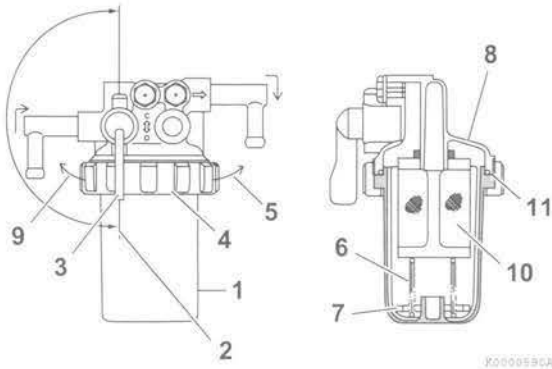

Figure 4
1. Position an approved container under the water separator (1, **Figure 4**) to collect the contaminants.
2. Close (2, **Figure 4**) the fuel valve (3, **Figure 4**).
3. Turn the retaining ring (4, **Figure 4**) to the left (9, **Figure 4**).
4. Carefully remove the cup (1, **Figure 4**). Remove the retaining spring (6, **Figure 4**) and float (7, **Figure 4**) from the cup. Pour the fuel into an approved container and dispose of waste properly. Hold the bottom of the cup with a shop towel to prevent the fuel from dripping. Wipe up any spills immediately.
6. Inspect the condition of the mesh filter (10, **Figure 4**). Clean the mesh filter if necessary.
7. Inspect the condition of the O-ring (11, **Figure 4**). Replace the O-ring if necessary.
8. Put the float (7, **Figure 4**) and retaining spring (6, **Figure 4**) inside the cup.
9. Reinstall the cup to the mounting flange (8, **Figure 4**) and turn the retaining ring (4, **Figure 4**) to the right (5, **Figure 4**). hand-tighten only.
10. Open the fuel valve (3, **Figure 4**).